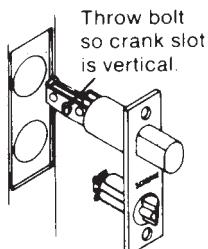
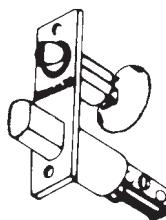

Figure 13.61 Insert latch unit.
Figure 13.62 Rotate deadlatch.
- With the deadbolt thrown and the crank slot in the vertical position, insert the latch unit and secure it with the screws provided (Fig. 13.61). The deadlatch can be rotated to match the door hand (Fig. 13.62). The beveled edge of the deadlatch should contact the striker as the door swings shut.